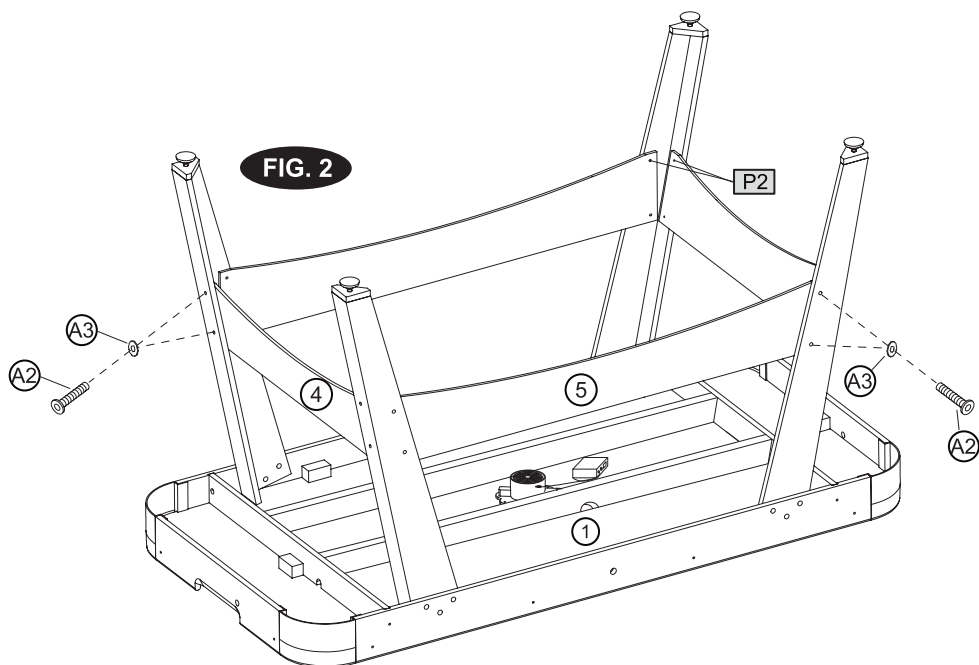

**FIG.1**
3. Place the Mainframe (#1) face down on a clean and flat surface. Attach the Right Leg (#2) and Left Leg (#3) to the Main Frame using three Leg Bolts (#A2) , thee Leg Washers (#A3) per Leg. See FIG. 1.